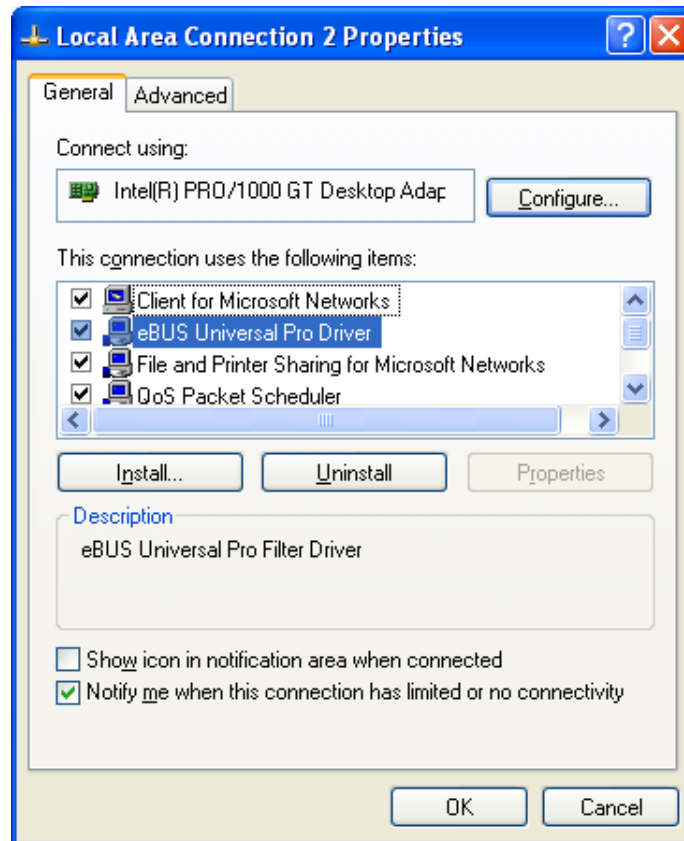
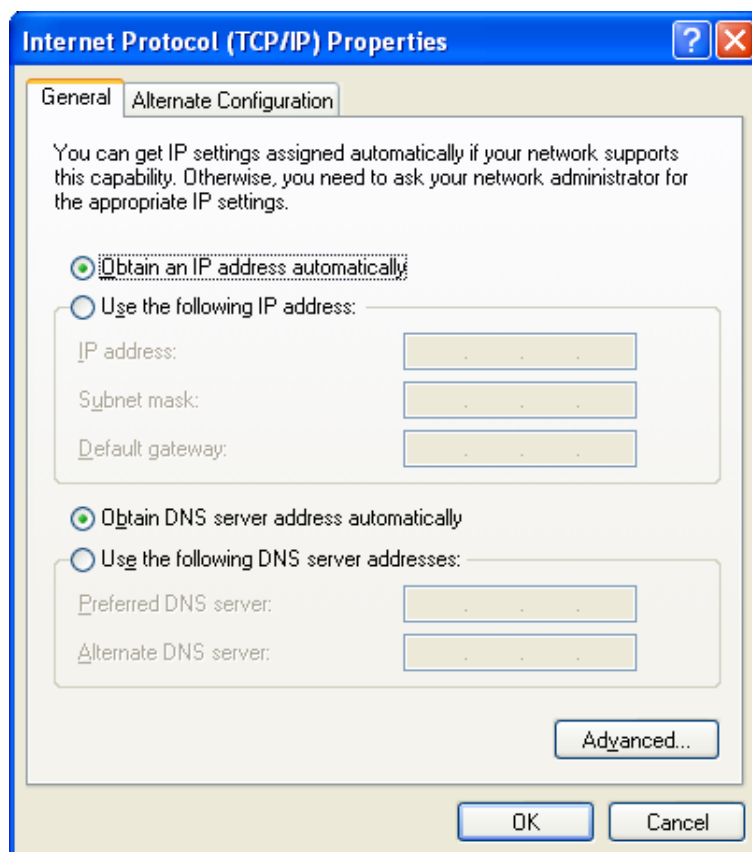
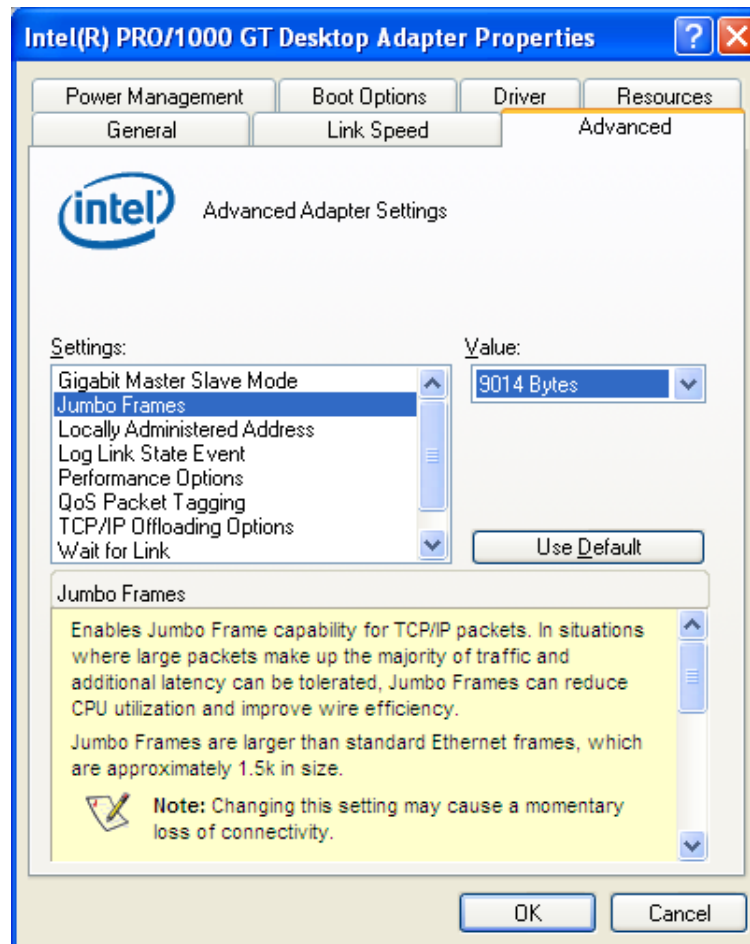

Figure 3.4: Local Area Connection Properties
Figure 3.5: TCP/IP Properties
Figure 3.6: Advanced Network Adapter Properties
2. By default, Photonfocus GigE Vision cameras are configured to obtain an IP address automatically. For this quick start guide it is recommended to configure the network adapter to obtain an IP address automatically. To do this, select Internet Protocol (TCP/IP) (see Fig. 3.4), click the Properties button and select Obtain an IP address automatically (see Fig. 3.5).
3. Open again the Local Area Connection Properties window (see Fig. 3.4) and click on the Configure button. In the window that appears click on the Advanced tab and click on Jumbo Frames in the Settings list (see Fig. 3.6). The highest number gives the best performance. Some tools however don't support the value 16128. For this guide it is recommended to select 9014 Bytes in the Value list.